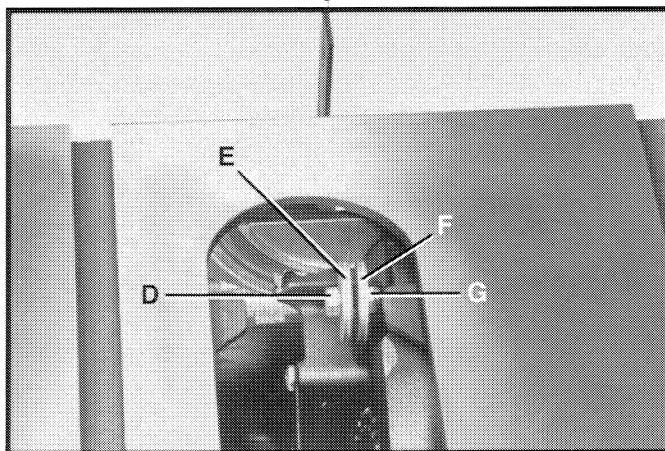

Fig. 22
2. Loosen outer nut (D) Fig. 22, and separate two large washers (E) and (F) as shown. Inner nut (G) has been adjusted at the factory so the face of inner washer (F) will be aligned with inner arbor flange.